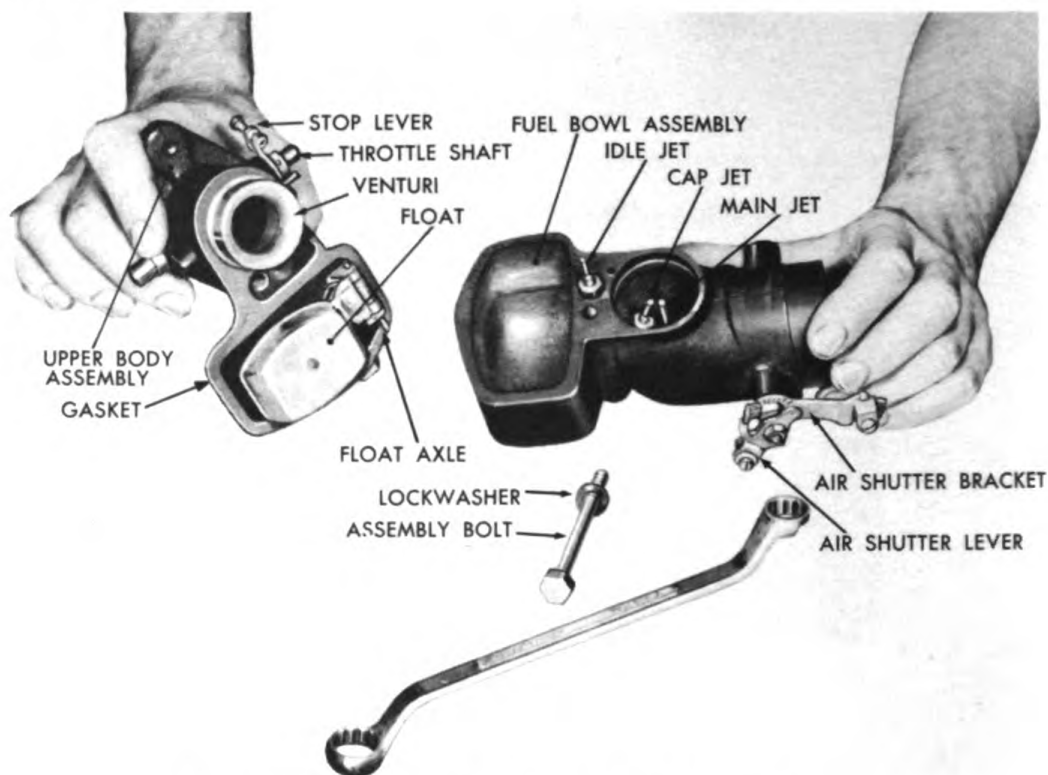

Figure 284. Removing Carburetor Bowl Assembly.
- a. Remove the assembly bolt which holds the bowl assembly to the upper body assembly. (No. 7816S service tool). See figure 284.
- 3. Bolt together with assembly bolt. Figure 284.